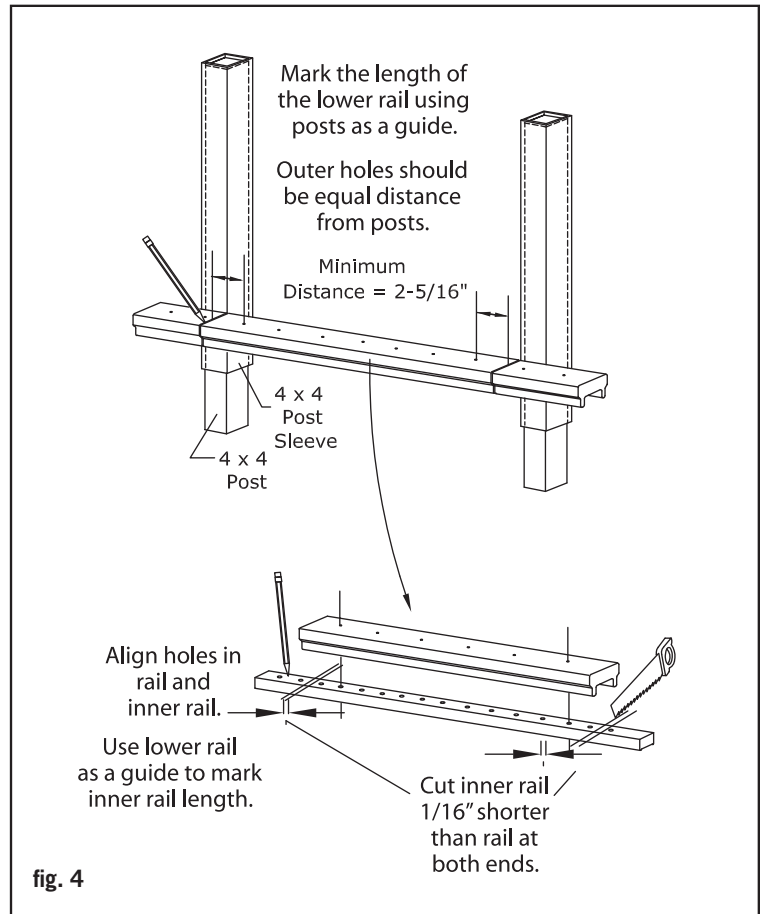

fig. 4
Step 7: **Note!** To ensure the balusters are installed plumb, the holes between the rail sections must all be aligned. **Tip:** Use a gauge pin or a 3/32" drill bit to ensure the holes are aligned. Using the trimmed lower rail as a guide, set one inner rail in the trimmed bottom rail and align the pre-drilled holes. Mark the cut lines on the inner rail with a pencil. **Note!** To allow for the thickness of the brackets, the inner rails should be 1/8" shorter than the outer rails with all holes equally spaced. Remove an additional 1/16" from the pencil mark on each end and trim the inner rail to length. Repeat for the second inner rail (fig. 4).